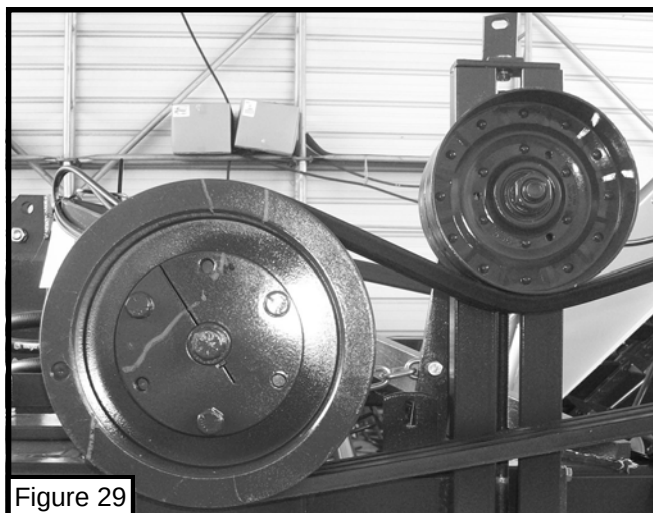

Figure 29
1. After 10 to 15 acres of running machine, check all conveyor and inverter drives to be sure that tension is adequate so that slippage does not occur. Check complete machine for any loose nuts, bars, belt linkage or excessively worn parts that may be due to misalignment. Shown in Figure 29 & 30 on Page 23